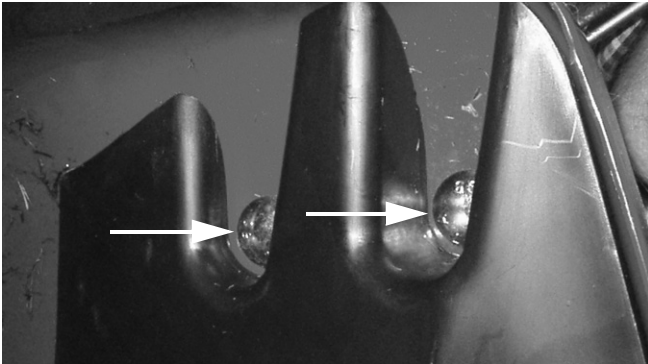

FIGURE 8
19. Prop the rear door open and remove the mulch plug (if so equipped) to allow access to the carriage bolts through the rear bagger chute area. See Figure 8.